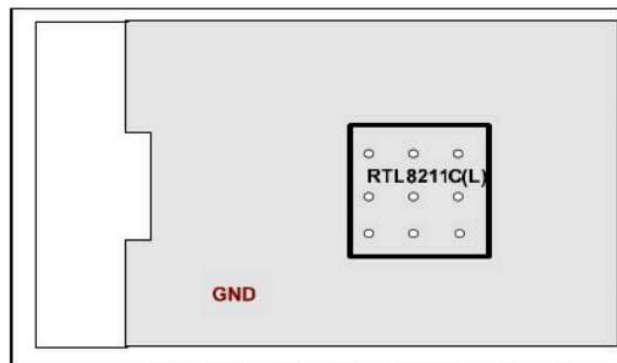

Figure 16. Ground Plane Layout-1
The RTL8211C(L) has only a single ground plane for analog power (AVDD33 and AVDD12) and digital power (DVDD33, DVDD12). In the center of the IC, there is an Exposed Pad (EPAD) ground. The size of the center EPAD ground is 5.6mm x 5.6mm. The PCB layout requires 9 vias to connect the EPAD to the lower layer ground plane (see Figure 16).